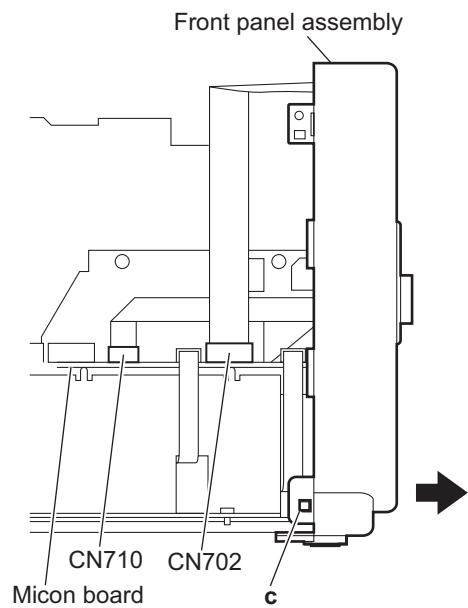

Fig.6
(See Figs.6 to 8)
- Remove the rear cover, side panels(L)/(R) and top cover assembly.
- (1) From the left side of the main body, disconnect the card wires from the connectors (CN702, CN710) on the micon board. (See Fig.6.)
- (3) From the both sides and bottom sides of the main body, release the joints **c** and joint **d**. (See Figs.6 to 8.)
- (4) Remove the front panel assembly in the direction of the arrow. (See Figs.6 to 8.)